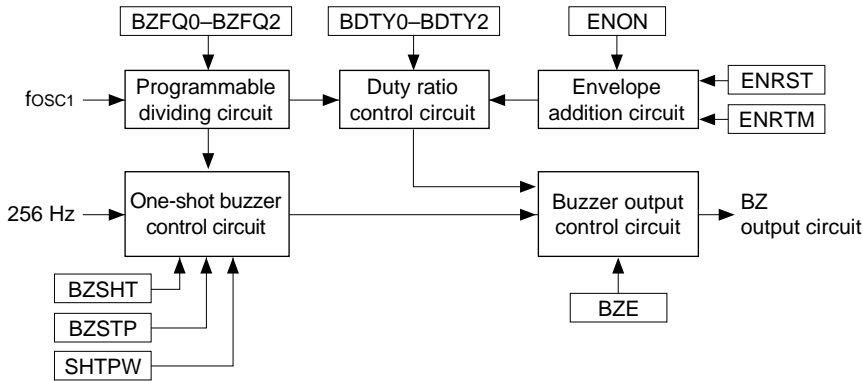

Fig. 4.12.1.1 Configuration of sound generator
The E0C63455 has a built-in sound generator for generating buzzer signals. Hence, generated buzzer signals (BZ) can be output from the BZ terminal. Aside permitting the respective setting of the buzzer signal frequency and sound level to 8 stages, it permits the adding of a digital envelope by means of duty ratio control. It also has a one-shot output function for outputting key operated sounds. Figure 4.12.1.1 shows the configuration of the sound generator.